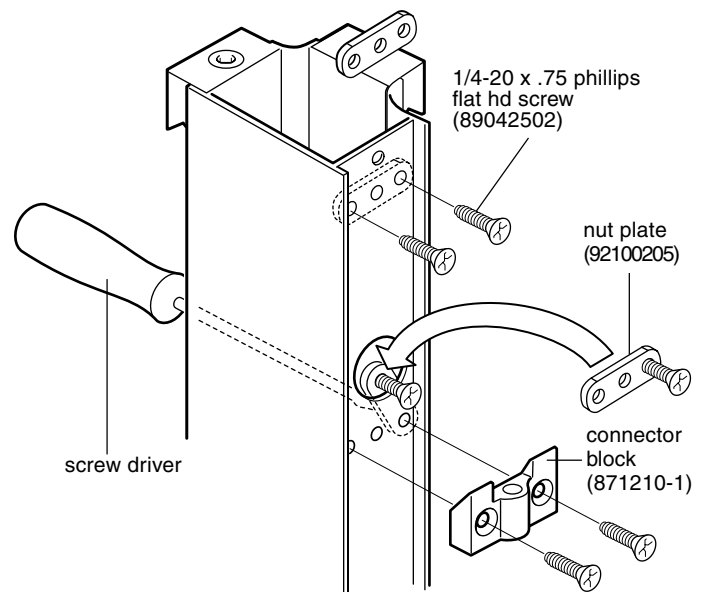

Figure 2
3. Attach a wedge block screw to the nut plate. Locate height required and insert nut plate through large hole in connector. Align nut plate holes with screw through holes in connector. Reattach one side of wedge block to the nut plate. Do not tighten screw. (Figure 2)